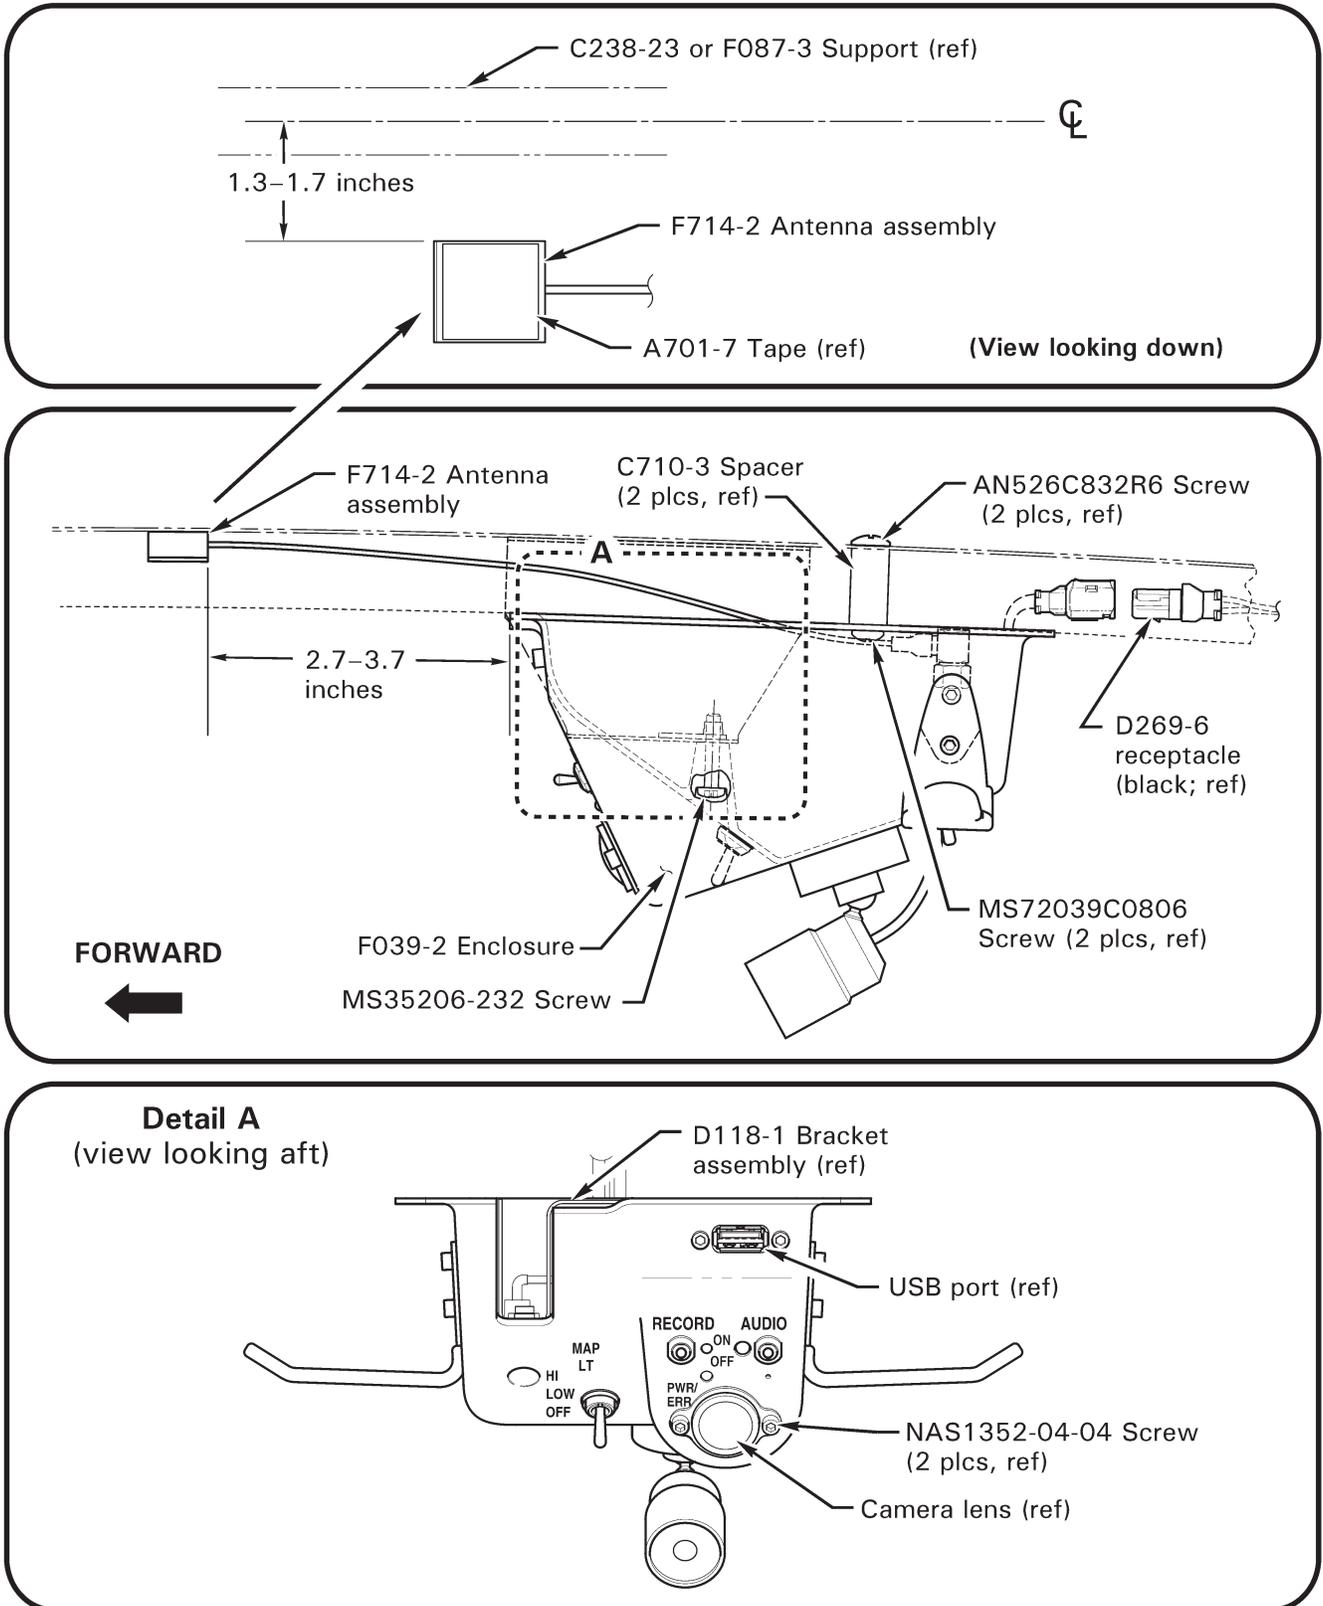
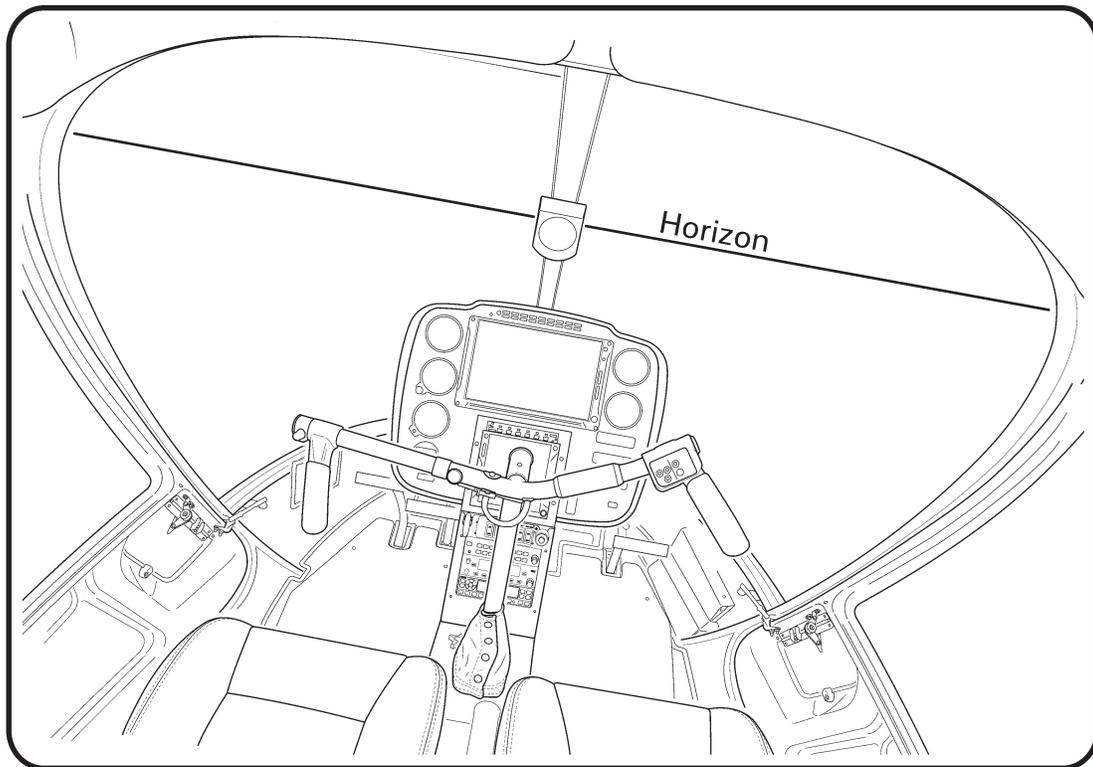

FIGURE 2 Camera enclosure and antenna installation
FIGURE 3 Camera view angle
5. Refer to Figure 2. Locate stowed black D269-6 receptacle in airframe harness and connect to enclosure assembly black plug. Connect 2-pin spotlight connector. Connect F714-2 antenna assembly to fitting in F039-2 enclosure assembly. Temporarily install enclosure assembly using retained C710-3 spacers & retained MS27039C0806 screws. Position antenna with metal side down and route wire forward as shown, carefully removing headliner as required.
6. Refer to Figure 2. Locate antenna as shown; remove backing from tape and press in place. Remove and retain C710-3 spacers & MS27039C0806 screws.
8. Install F039-2 enclosure assembly using (2) C710-3 spacers and (2) MS27039C0806 screws. Secure enclosure to D118-1 bracket assembly using (1) MS35206-232 screw.
- b. Refer to Figure 2. Insert F714-4 flash drive assembly into USB port of F039-2 enclosure. Toggle helicopter battery switch ON for minimum 30 seconds; video will record automatically. While video is recording, activate & route an audio source (such as ATIS) to copilot headset. Toggle helicopter battery switch OFF.
- d. If horizon slants to the right (as shown in Figure 3), adjust angle by loosening two NAS1352-04-04 screws holding lens (see Figure 2) and rotate lens counterclockwise while facing lens; if horizon slants to the left, rotate lens clockwise. Tighten screws. Repeat steps b & c.